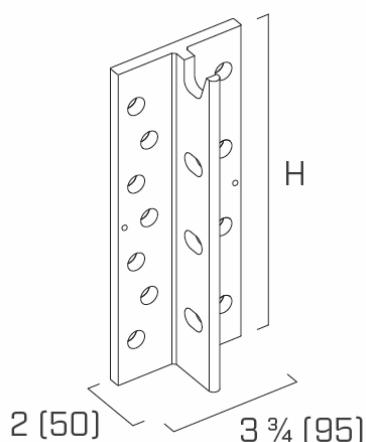

FIGURE 2—ALUMEGA HP CONNECTOR
3.1.1 ALUMEGA HP: The ALUMEGA HP connector flange has two staggered rows of 1/2-inch-round (13 mm) holes on either side of the stem and 3/16-inch-round (5 mm) holes for positioning screws. The stem has horizontal oblong holes spaced 2³/₈ inches (60 mm) on center. The primary fasteners are installed perpendicular to the face of the wood. See Figure 2 for a representative image of the connector.